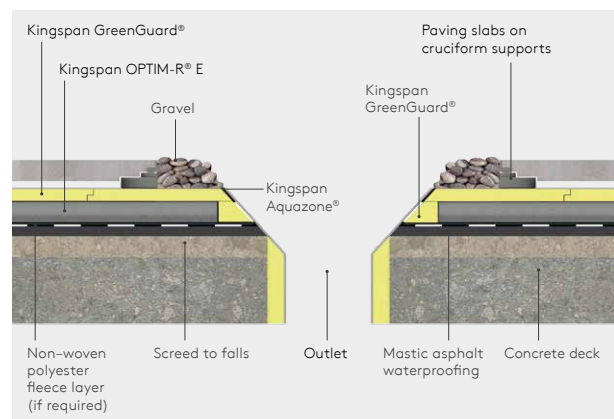

Figure 8 - Two level drainage
- Insulate internal rainwater downpipes and other pipes that penetrate the roof if they pass through spaces with a high humidity and if any condensate will damage the structure or internal finishes. Use Kingspan GreenGuard® around the pipe outlet and with taping the external insulation prevent condensation from getting to the downpipes. A VCL internally is required to prevent this to restrict water vapour from reaching the pipe (see Figure 8).